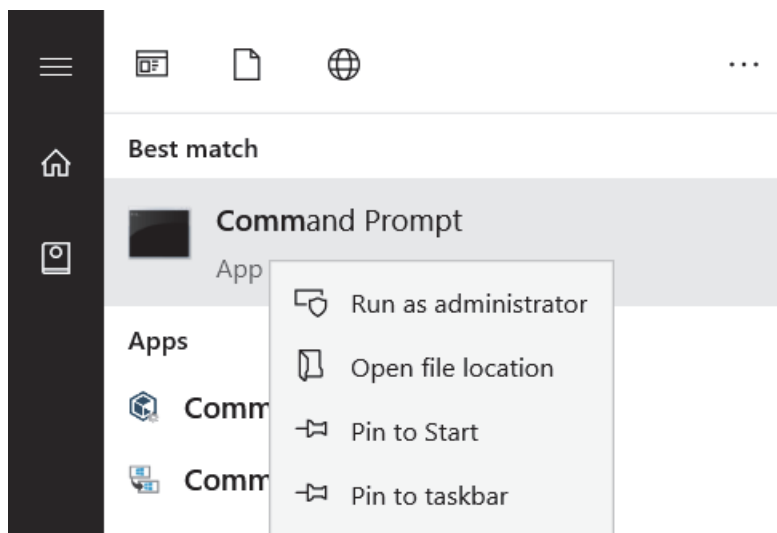

Figure 1 - Starting the Command Prompt Application
- b. Right-click **Command Prompt** and then click **Run as administrator**. See **Figure 1**.